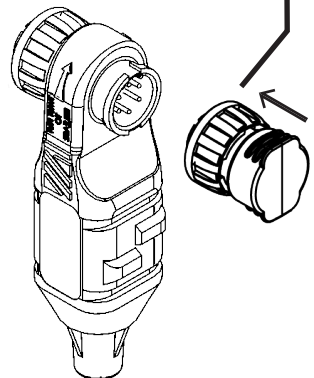

Figure 2 - CAP ASSEMBLY
- 1) Refer to Figure 2. Notice that the connectors are in line prior to inserting one into the other. (In this case, the End Cap is going to be inserted into an EGT Probe.)